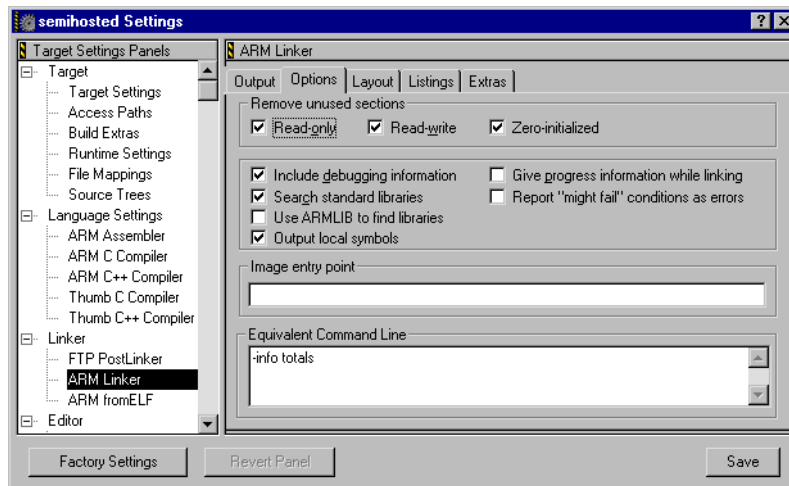

Figure 3-20 Linker options
3. Select the **Linker** entry. Check the **Include debugging information** box (see Figure 3-20).
4. Select the **ARM C Compiler** entry and the **Debug** tab. Change the settings to produce optimum debug view (see Figure 3-20).